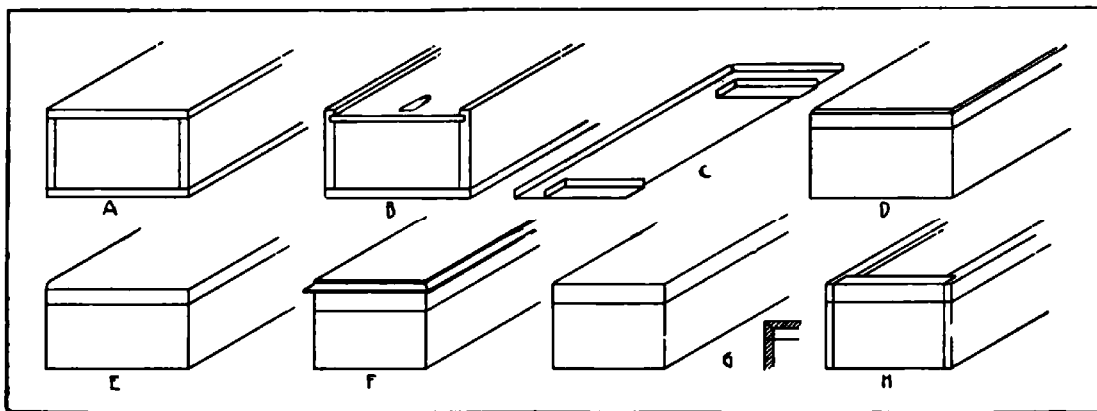

Fig. 285. Forms of Box Construction.
*The Lids of Boxes.* The simplest form is a full flat cover, Fig. 285, A, which may be nailed or screwed to the box, as in packing cases. The cover may slide into a groove, Fig. 285, B, along the sides
and into one end, the other end being lowered to admit it. The cover may have cleats on its underside, Fig. 285, E, which fit just inside the box and keep the top in place. The cleats also prevent the
The lid may be boxed, Fig. 285, D, that is, portions of the sides may be affixed to the top. These extra pieces are a help to stiffen the top and to keep it from warping. A boxed top may have the top board flush with the sides, Fig. 285, E. The disadvantage of this is that the top may shrink and part from the sides and give a bad appearance. The overlapping top, Fig. 285, F, obviates this trouble of shrinkage and adds a decorative element. In this case the top may be glued on or screwed from below thru the side strips.
The top may be mitered into the sides, Fig. 285, G. The shrinkage trouble still obtains here. Otherwise the appearance is excellent. The top may be paneled into the sides, Fig. 285, H. This has a good appearance if the sides are mitered or ledged but not if the sides are butted or dadoed, because then the groove for the top shows.
In gluing boxes together, it is a good plan to glue the ends and sides together first and to let these joints dry before gluing on the bottom and, in the case of a boxed top, Fig. 285, D, the top. Care must be taken to see that the sides do not bow under the pressure. To prevent this, one or more false, temporary partitions as A, B, in Fig. 286, of exactly the length to keep the sides
straight, may be inserted. In gluing together boxes with rabbeted joints, Fig. 285, H, pressure should be applied in both directions.